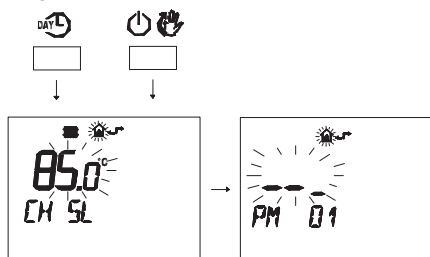

Fig. 7.28
- Press buttons and at the same time to enter transparent programming (Fig. 7.28).